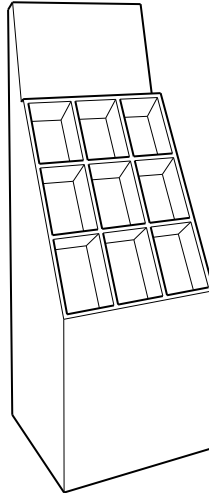

Fig. 5
Fig. 5 shows a point of sale display stand.
(a) Give **four** justified design requirements for a point of sale display stand of the type shown in Fig. 5.
- (e) (i) State a **suitable specific material** for the point of sale display stand shown in Fig. 5. Give **two** properties or characteristics that make the material suitable for this use.